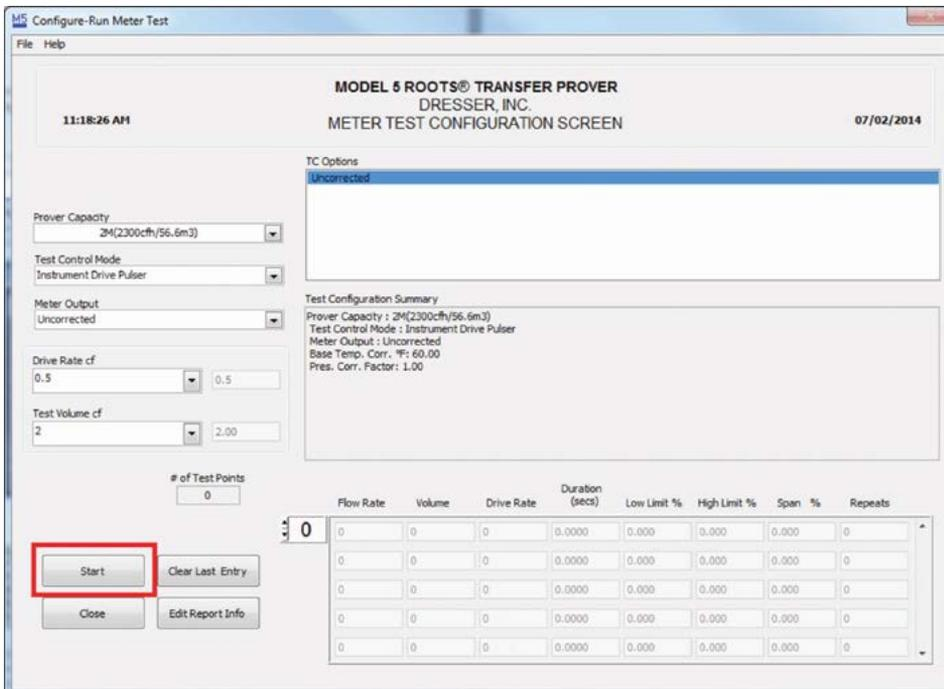

Figure 79: Start Button Selection
3. Once the test information is entered, press the "Start" button at the bottom left of the screen to initiate the test sequence using the configured testing parameters. The information for the test configuration will stay current until they are changed, or the screen is returned to the Startup screen. Refer to **Figure 79**.